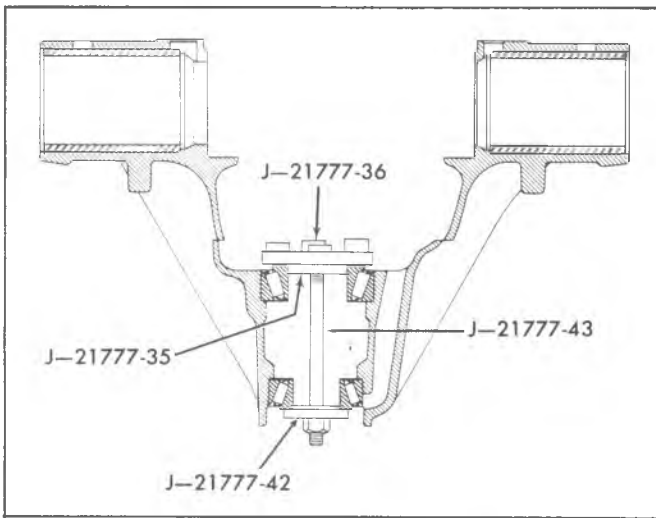

Fig. 20C—Gauge Plate Installed
3. With cloverleaf gauge plate J-21777-36 mounted on preload stud J-21777-43, insert stud through rear bearing and pilot J-21777-35, and through front bearing and pilot J-21777-42. Install the hex nut until snug and rotate the bearings to make sure they are properly seated. See figure 20C for illustration of proper positioning.